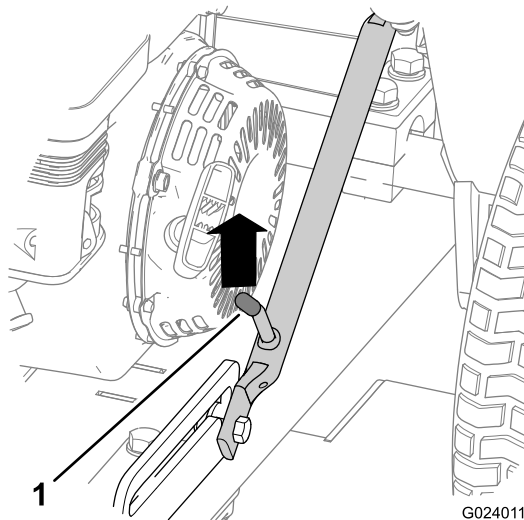
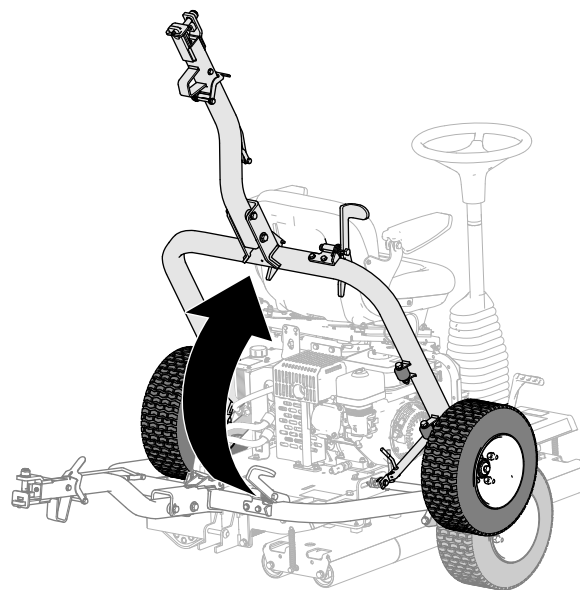

Figure 18
Figure 23
1. Push up on the hitch assembly until the latch lever is unlocked from the slide detent (Figure 18).
5. Raise the hitch (Figure 23) until the latch lever locks in the slide detent (Figure 18).